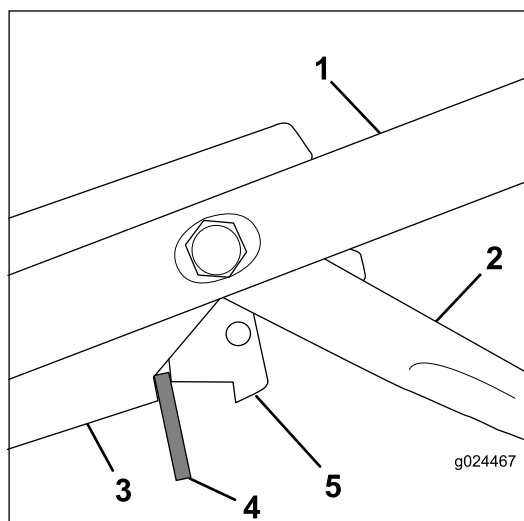

Figure 31
3. Insert a 8 mm (5/16-inch) thick spacer between the blade-brake-control lever and the control bracket on the handle (Figure 31).